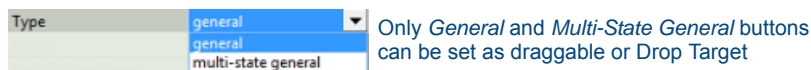

FIG. 16 TPDesign5 General Properties - Type set to "general"
- Set the button's **Type** (General) property to **general** (FIG. 16):